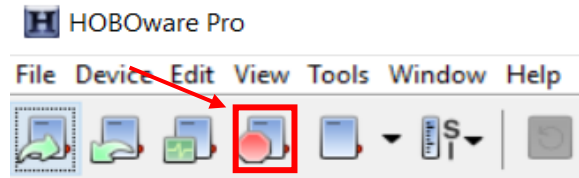

Figure A.1.16: HOBOWare “Stop Logging” Button.
2. If satisfied with the accuracy of the measurements, click the “Stop Logging” button on the top left corner of the screen (Figure A.1.16).